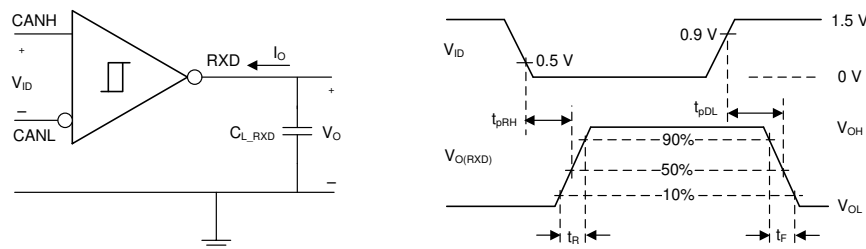
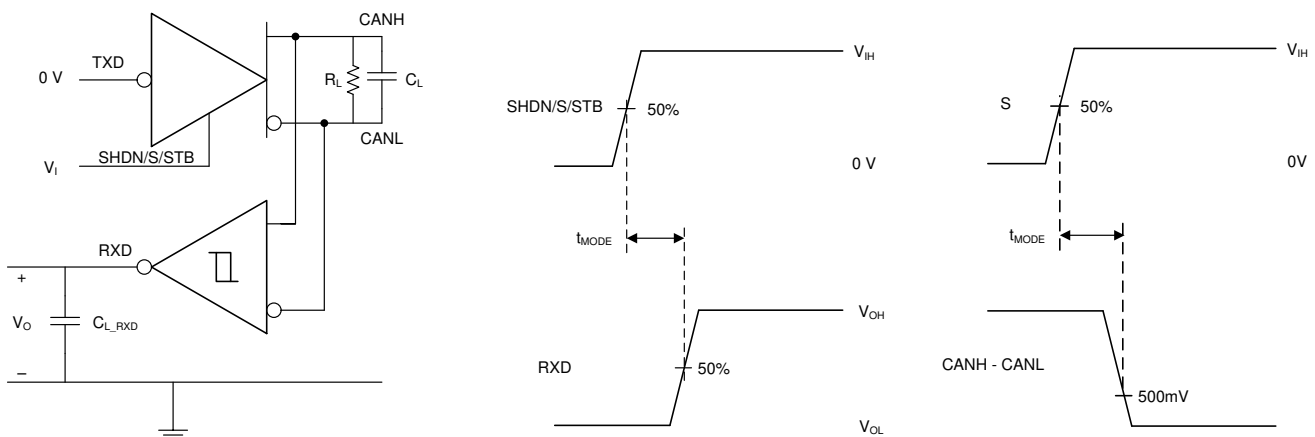
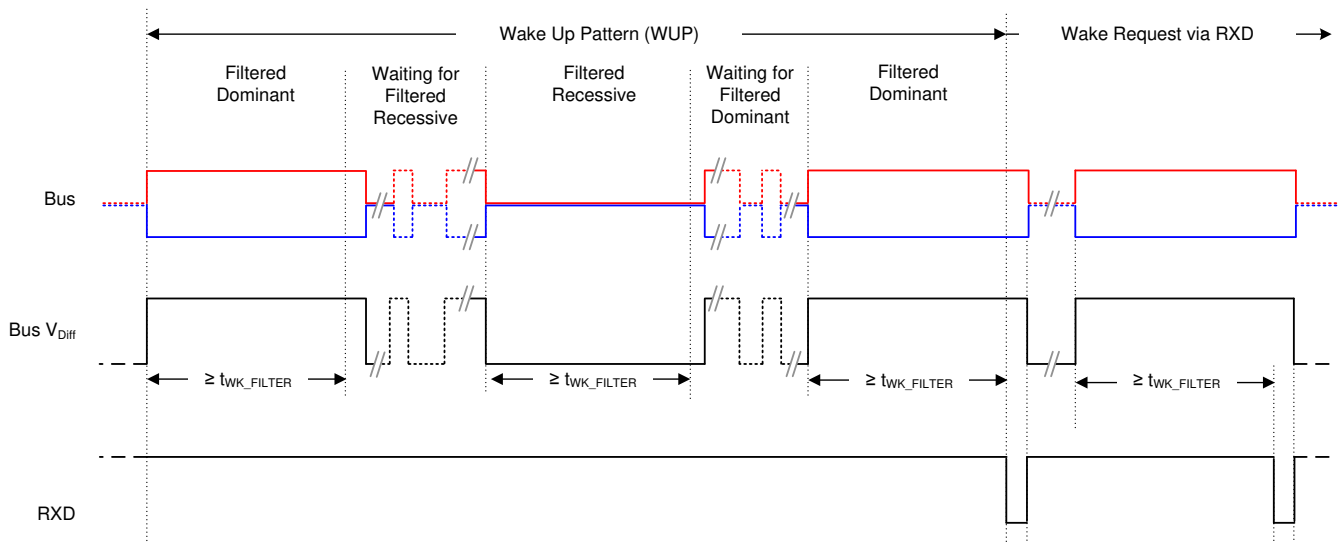

Figure 6-3. Receiver Test Circuit and Measurement
Figure 6-4. t_{MODE} Test Circuit and Measurement, from Normal to Shutdown, Standby or Silent Mode
Figure 6-5. Wake Up Pattern (WUP) and Bus Wake via RXD Request (BWRR)
The CAN bus has two logical states during operation: recessive and dominant. See Figure 6-3 and Figure 6-4.
Transceivers with low power Standby Mode have a third bus state where the bus terminals are weakly biased to ground via the high resistance internal resistors of the receiver. See Figure 6-3 and Figure 6-4.
(1) Mirrors bus state: low if CAN bus is dominant, high if CAN bus is recessive.
(2) See Figure 6-3 for bus state.
(1) Standby Mode RXD behavior: See Figure 6-5.
This is the low power mode of the device. The CAN driver and main receiver are turned off and bi-directional CAN communication is not possible. The low power receiver and bus monitor are enabled to allow for RXD Wake Requests via the CAN bus. A wake up request will be output to RXD (driven low) as shown in Figure 6-5. The local CAN protocol microprocessor should monitor RXD for transitions (high to low) and reactivate the device to normal mode based on the RXD Wake Request. The CAN bus pins are weakly pulled to GND during this mode, see Figure 6-4.
See Figure 6-5 for the timing diagram of the WUP. The pattern, t_{WK_FILTER} time used for the WUP and BWRR prevent noise and bus stuck dominant faults from causing false wake requests. If the device is switched to normal mode, or an under voltage event occurs on V_{CC} the BWRR will be lost.